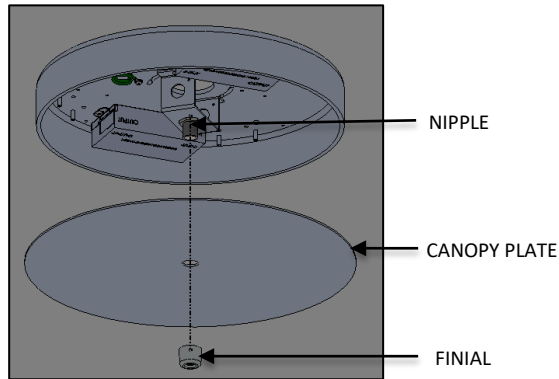

FIG. 25 – CANOPY PLATE INSTALLATION
4. Loosely secure CANOPY PLATE to the ceiling by threading the FINIAL to the NIPPLE (available in CANOPY ASSEMBLY) as shown below in FIG. 25.